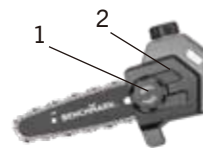

FIG. 6
6. Replace the sprocket cover (1) (Fig.6) over the sprocket (2) (Fig.6) and turn the sprocket cover knob clockwise to tighten.